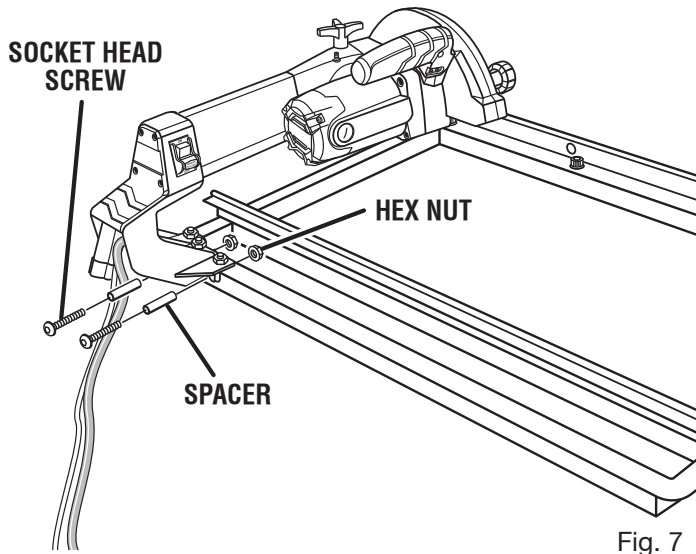

Fig. 7
- Place spacers in the side holes of the frame as shown in figure 7.